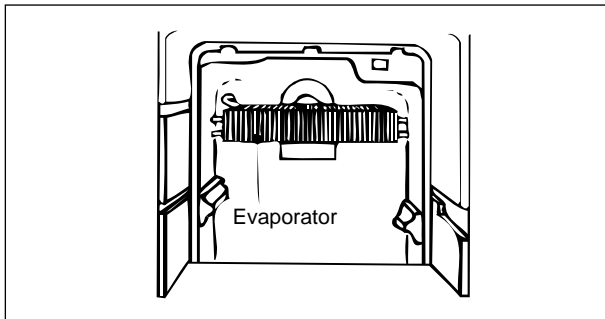

Fig. A-23
3. As shown in Fig. A-23, bend the removed Evaporator horizontally so that Defrost heater can be replaced easily.